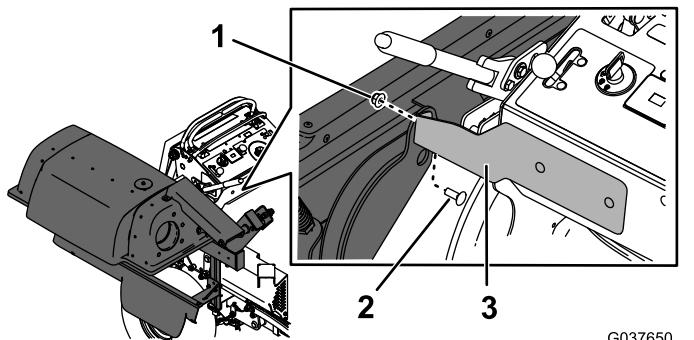

Figure 16
- Secure the bagger frame to the front mount bracket using a carriage bolt (3/8 x 1 inch) and nut (3/8 inch) as shown in Figure 16.